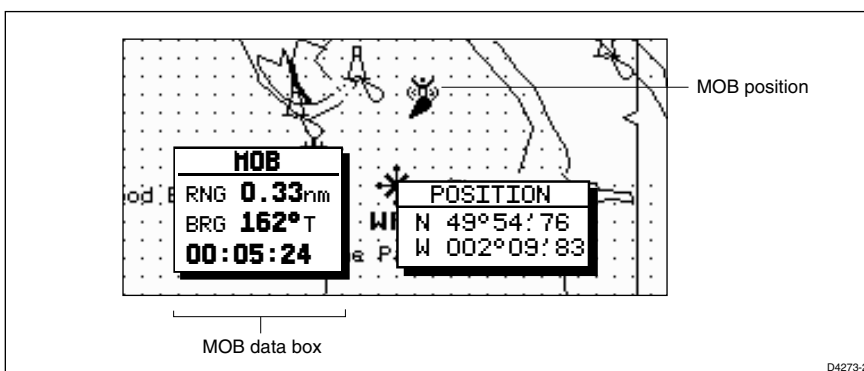

Figure 6-3: MOB Display
- Displays the MOB data box, showing the bearing and distance from your vessel to the MOB waypoint position, and the elapsed time since the MOB was initiated (*Figure 6-3*).